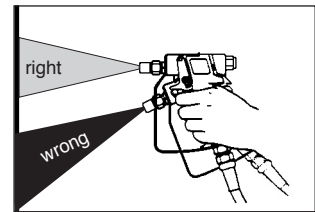

Fig. 82: Spray angle
- Hold the spray gun at right angles (90°) to the area to be coated. If the spray gun is held under a different angle, the coating becomes irregular and blotchy (see Fig. 82).